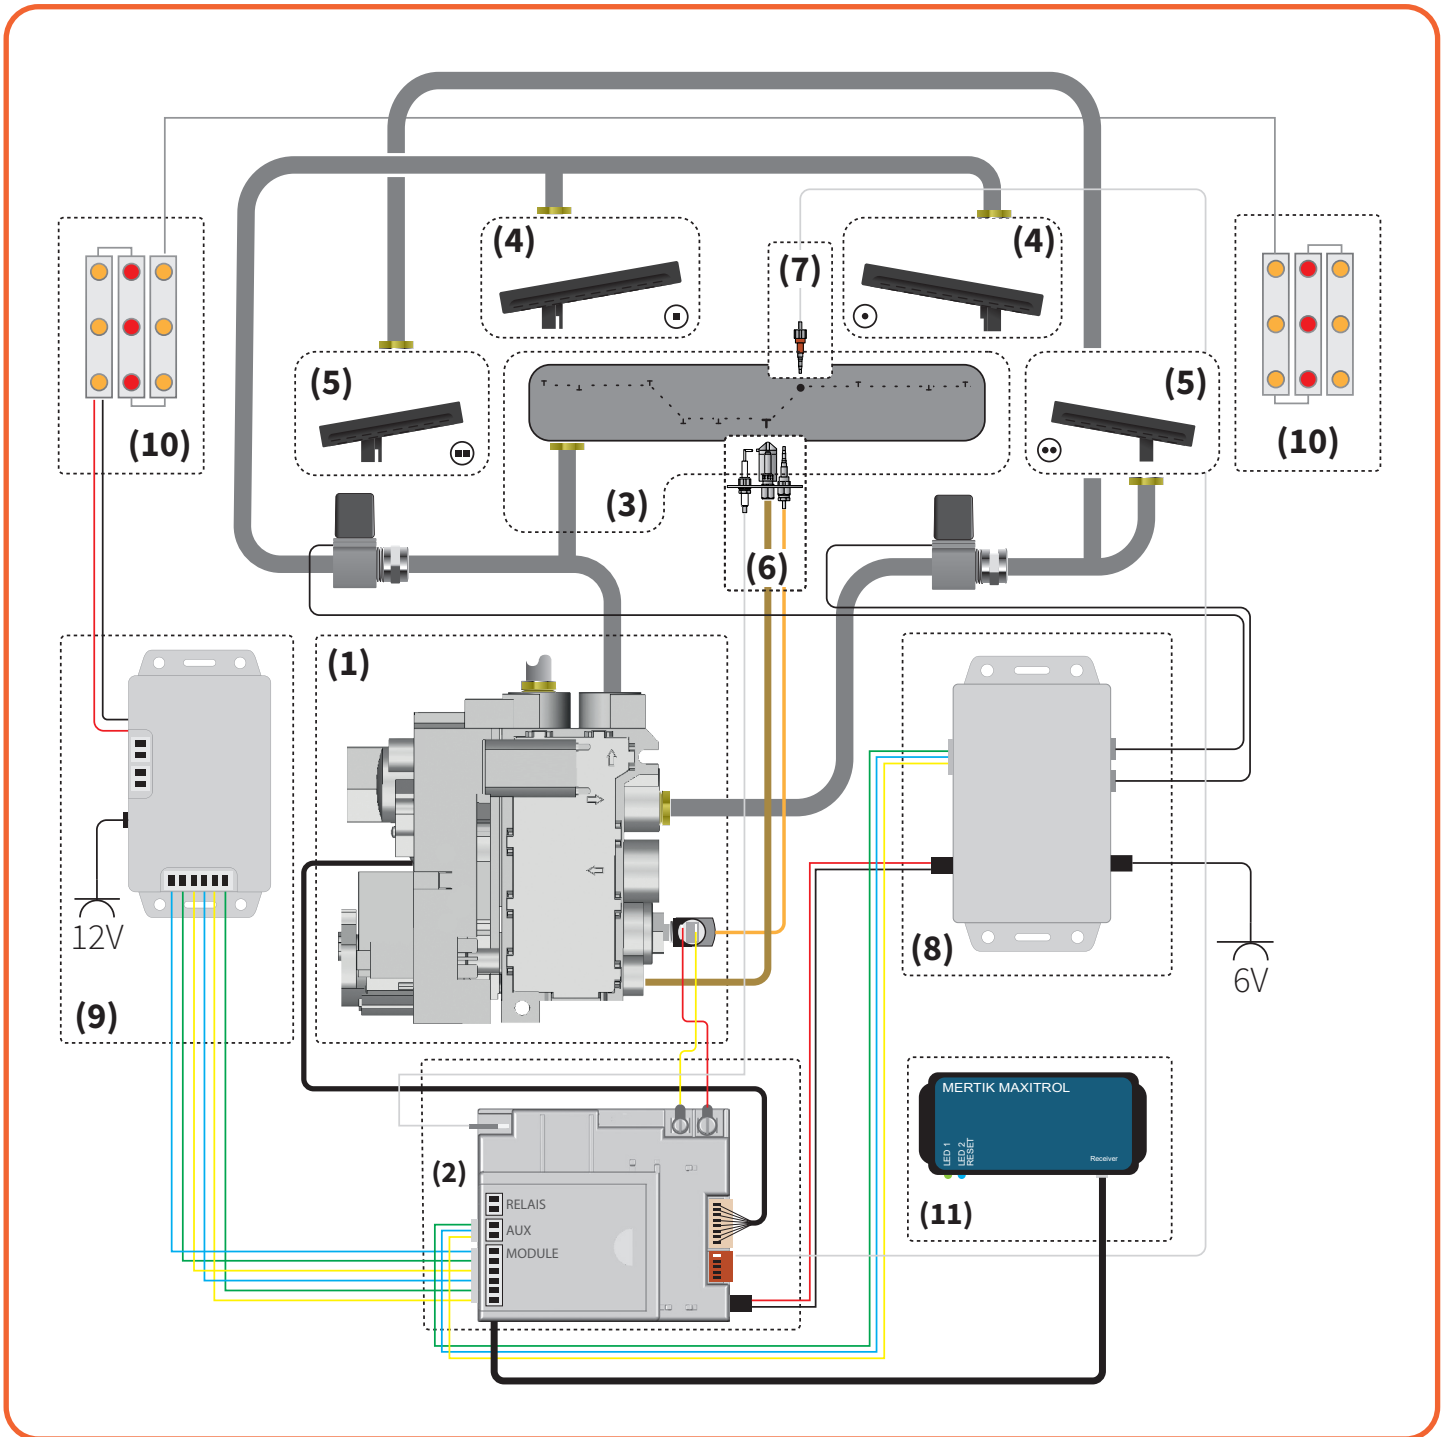

Figure 9.1 - Schematic Electronic Circuit
**Figure 9.1** shows a simplified connection circuit for the fireplace. Every fireplace is provided with a main adapter.
Element4 cannot be held liable for incorrect use of the adapters! See **figure. 9.1** for correct connection.
The LED module works with a 12V adapter and only needs to be plugged into the LED Module itself! When the 12V adapter is connected in the Quad Module or on the receiver, it will be irrevocably damaged. Element4 cannot be held responsible for damage caused in this way to the stove or the associated electronics. See also **figure 9.1** for the connection diagram.